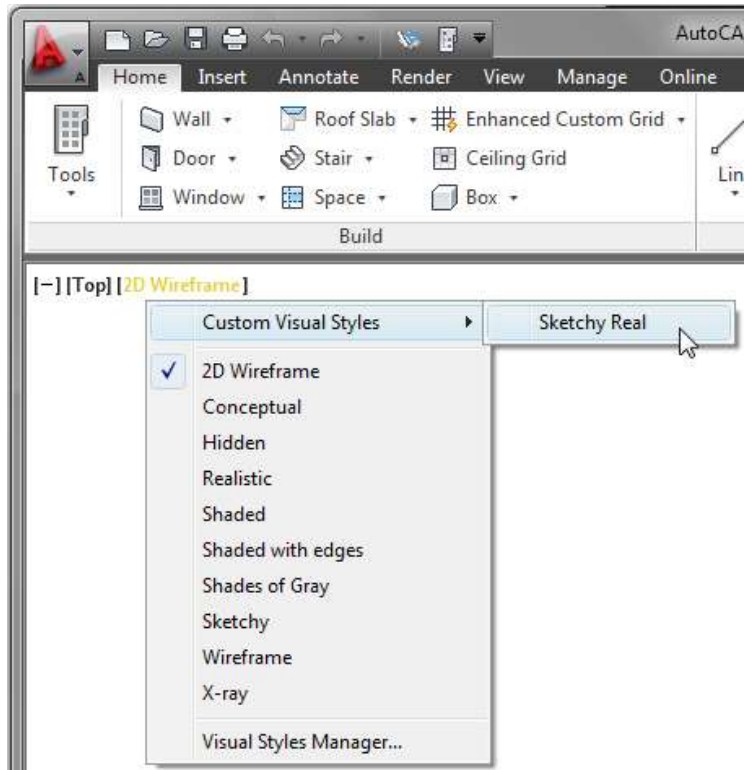

Fig.1.7- 1-View Port.
3. **Ref. Image.Fig.1.7** → The third-string displays the name of the current Visual Style, and the menu allows you to set a different Visual Style current (predefined or custom) or to open the Visual Styles Manager.